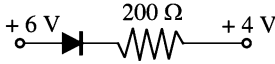

Fig. 6.72
1. What is the current in the circuit in Fig. 6.72? Assume the diode to be ideal. [10 mA]